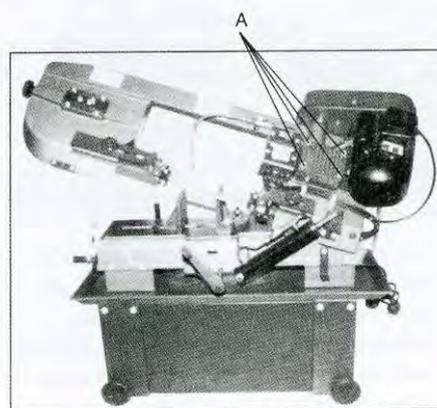

Fig.17
3. Remove screw (A, Fig.17) from the gearbox and remove cover plate and gasket.